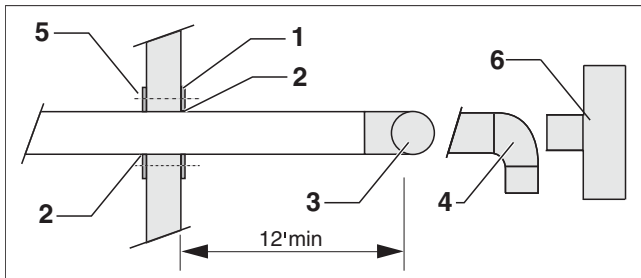

Fig. 11 Design of air supply or exhaust pipe wall exit
- 1;2 Flue outlet (external-wall flue requires horizontally or vertically mounted T-piece), observe clearances specified in Fig. 11